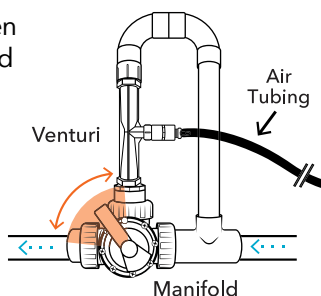

Figure 9: 3-Way Valve
- Position the 3-way valve handle in between the Venturi & water out flow, as highlighted in Figure 9.